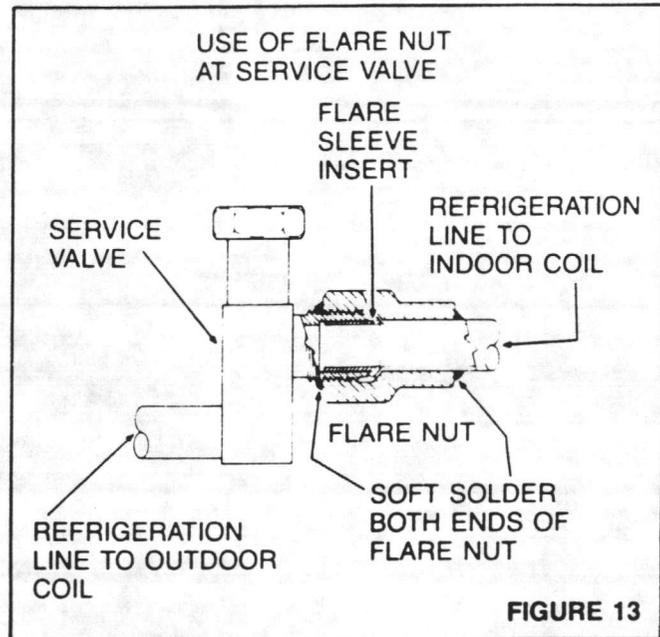

FIGURE 13
- Place flare insert into braze counterbore on the field port. SEE FIGURE 13.
- In order to prevent loosening of flare nut, apply soft solder as shown in FIGURE 13.